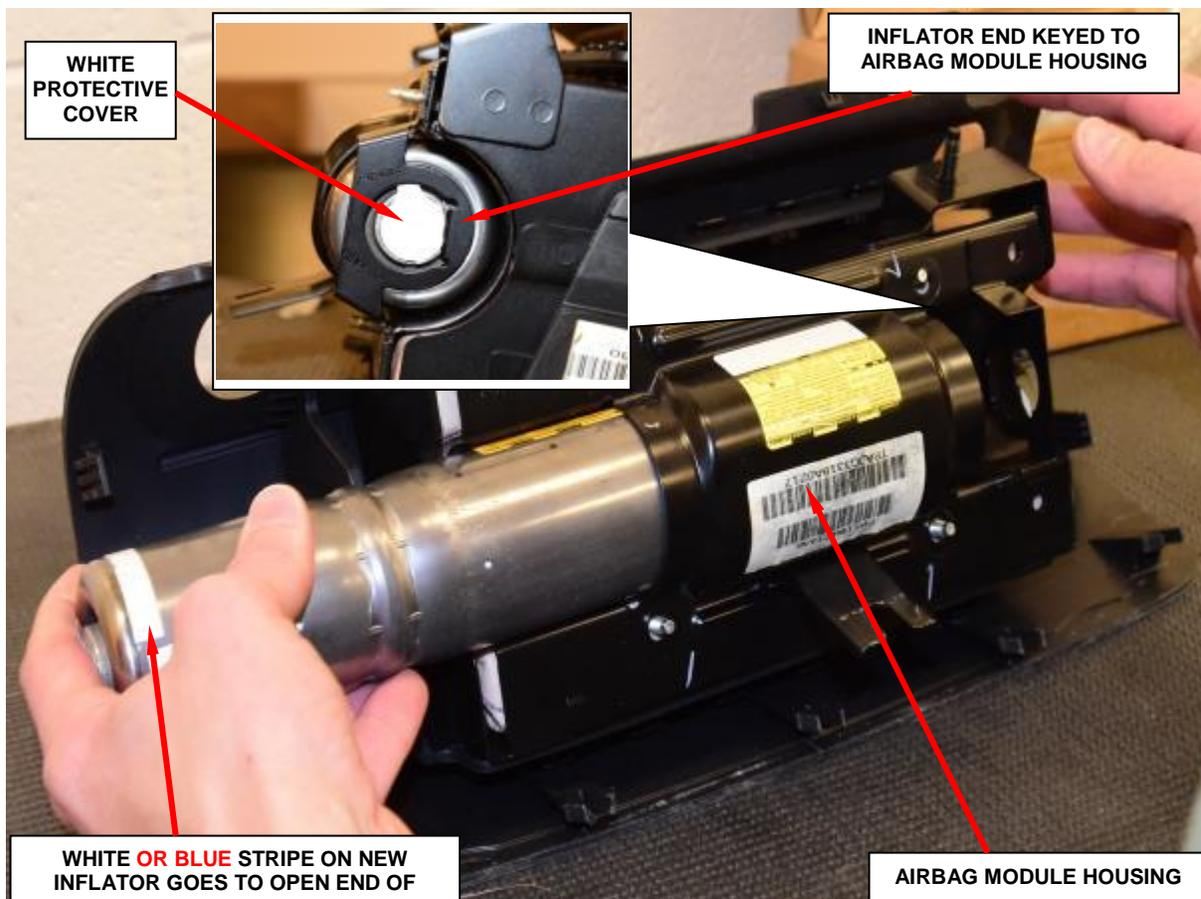

Figure 110 – Inflator Installation
NOTE: The inflator's key MUST line up with the housing's key (Figure 110).
- m. Slide the **old** inflator out of the passenger airbag module housing (Figure 110).
NOTE: The inflator is keyed to fit into the housing. Ensure that when the new inflator is inserted, the keyed end goes in first (Figure 110).
- n. Slide the **NEW** inflator into the passenger airbag module housing. The keyed end is inserted first; therefore, the white stripe on the **NEW** inflator will be located at the open end (Figure 110).